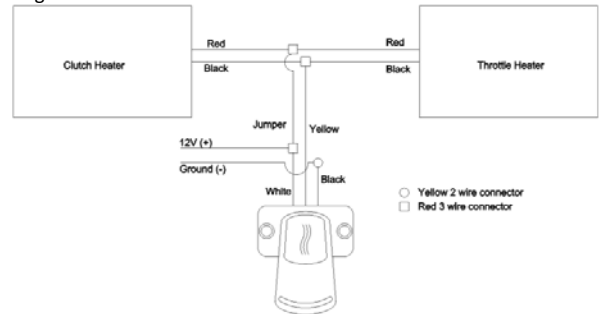

Figure 2: External Heaters Wire Connections
9. Make the connections as shown in **Figure 2**. **Note:** If a spacer is needed, mount the controller with the spacer before making the connections.